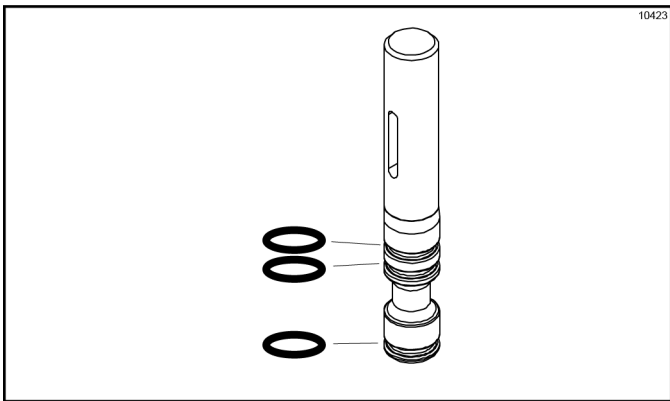

Figure 6-10
- 6 3. Slide the three O-rings into the grooves on the draw valve and lubricate. (See Figure 6-10.)